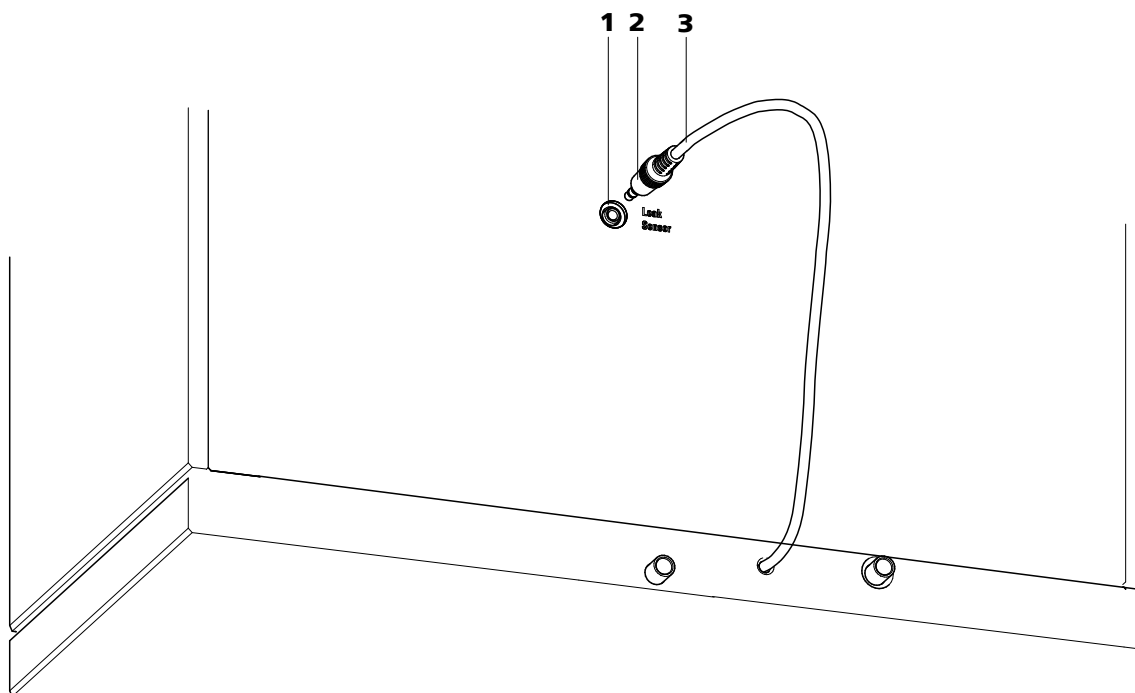

Figure 8 Connection for the leak sensor on the rear of the instrument
- 1 Plug the leak sensor connector plug (8-2) into the leak sensor connector socket (8-1) on the rear of the instrument (see *Figure 8, page 27*).